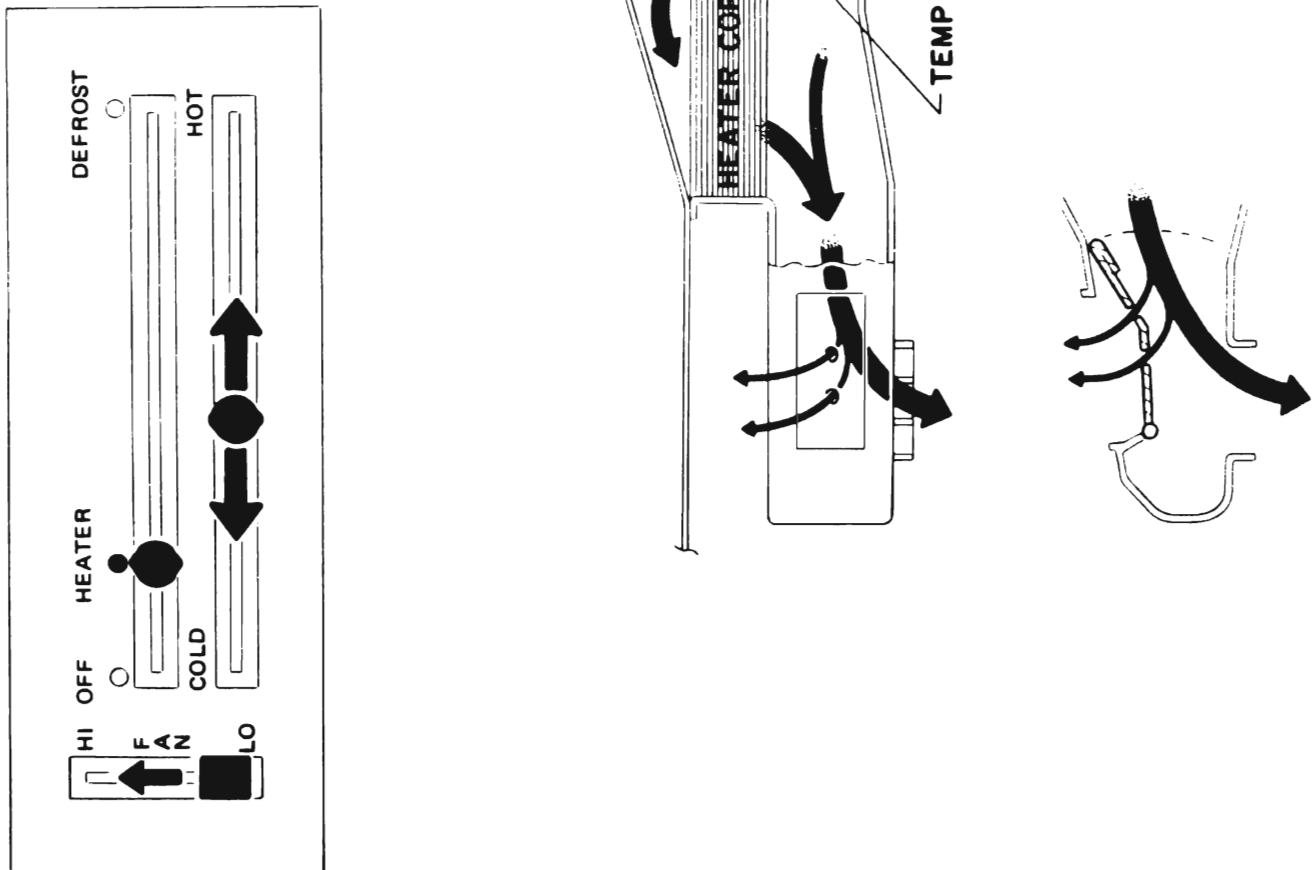

Figure 12-11 Heater System Air Flow - Heat
2. Heater Assembly - The heater assembly (see Figure 12-11) houses the heater core and the doors necessary to control mixing and channeling of the air. Air entering the heater assembly divides into two channels: (1) through the heater core and (2) through a by-pass around the heater core. The ratio of the mixture of heated to unheated air is controlled by the temperature door. A purge inlet door initiates the air flow through the heater assembly. A defroster door controls the amount of air directed through the defroster outlets. The defroster door may be positioned to direct nearly all air to the defroster outlet or nearly all air to the floor outlet and may be varied to provide intermediate proportions as desired.